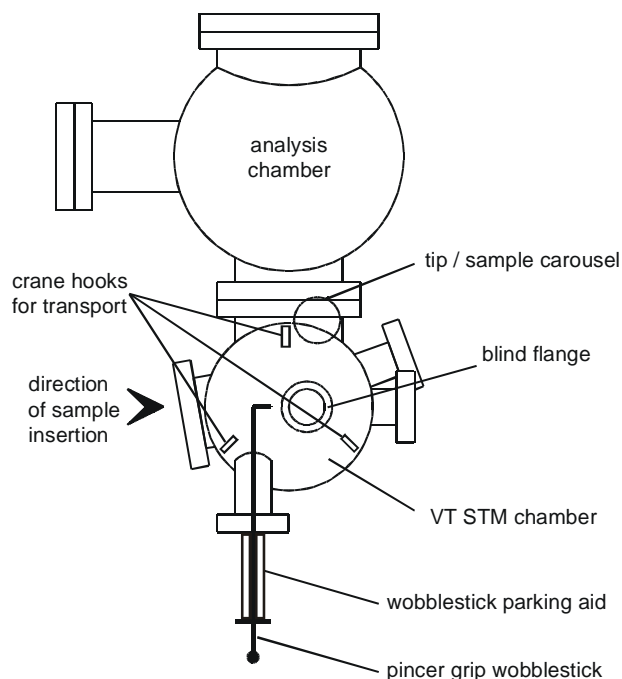

Figure 14. Mounting the VT STM XA chamber to the main system.
5. The port for the wobblestick has to be perpendicular to the direction of inserting the sample, see figure 14. Seen from the wobblestick port, you look into the sample support stage with the main cooling stage to the right.